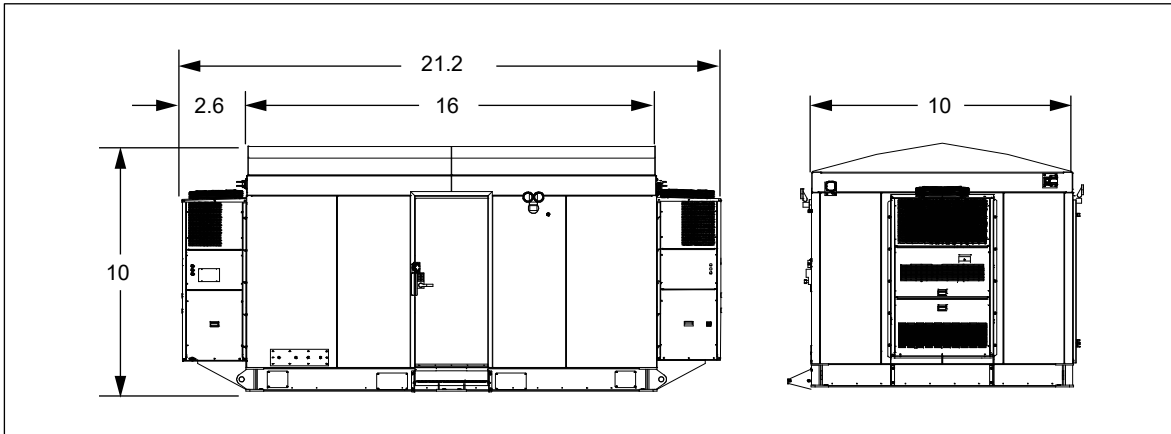

Figure 2 Overall Dimensions (in feet)
- See Figure 2 for overall dimensions.